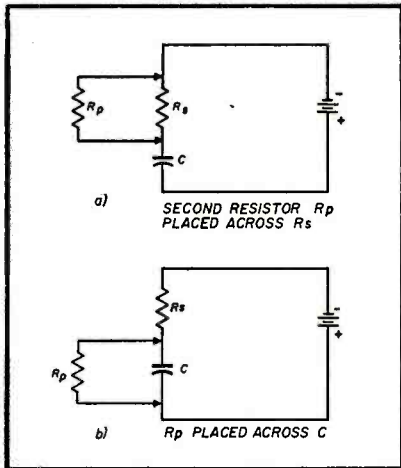

Fig. 17— $R_p$  has same effect on time constant whether put across  $C$  or  $R_s$ .
1) Any circuit change in an RC circuit which reduces the final voltage to which the condenser charges (while the same battery voltage is used) reduces the time constant, if the initial charging current is not also reduced. Example: Placing  $R_p$  across  $C$  in Fig. 17 reduces the voltage to which  $C$  would charge, as compared to a simple series circuit, without reducing the initial charging current. Adding a resistor across the condenser therefore reduces the time constant of the circuit.